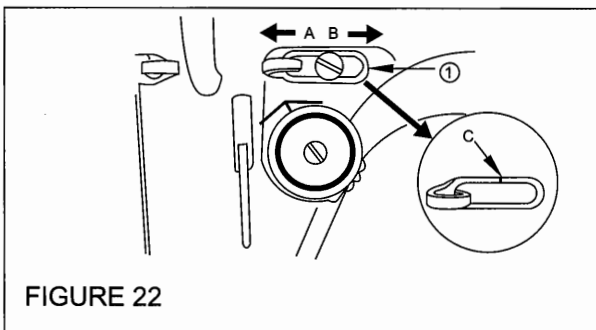

FIGURE 22
- 1) Loosen screw ① and adjust the height of the presser bar (When presser foot raises to the highest, the distance between the throat plate and the presser foot is 5.5mm).
16. ADJUSTING THE THREAD TAKE-UP STROKE (FIGURE 22)